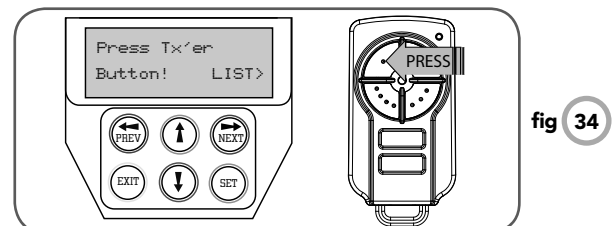

fig 34
2. Press the transmitter button you wish to use to operate the Gate Opener (e.g. button 1) **(Fig. 34)**.